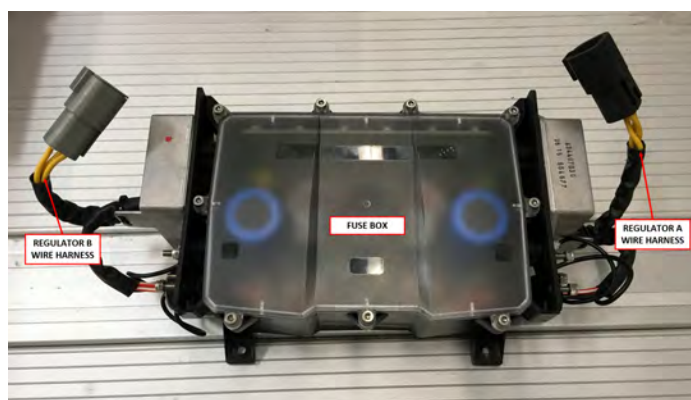

FIGURE 16-56
3. Inspect the Regulator A and B wires near the connectors (Figure 16-56). Replace the Regulator if any signs of discoloration (browning) are apparent. (See “Remove Fuse Box and Regulators” on page 16-96.)